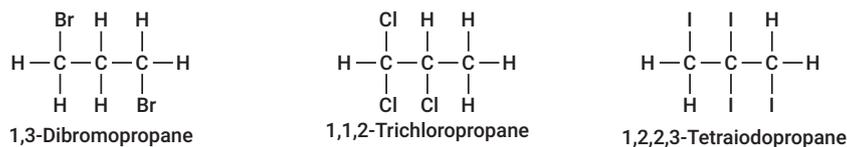

FIGURE 12.3.5 Molecules with more than one of the same functional group
5. If there is more than one of the same functional group or alkyl chain in the molecule, then the prefixes di-, tri- or tetra- are used. The numbers of each of the groups are indicated first, separated by commas, as seen in **Figure 12.3.5**.